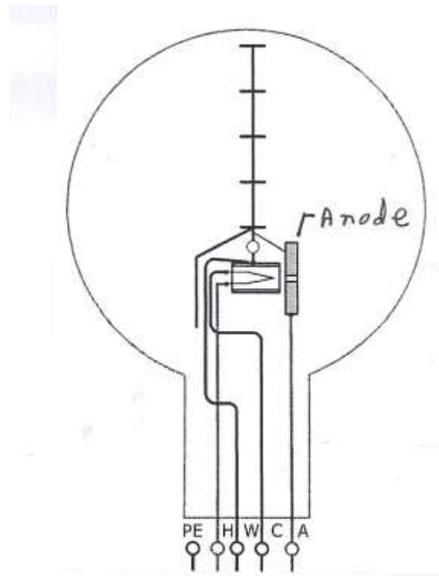

Fig. 2
field in the region of the bulb. Inside the glass bulb is an “electron gun” mounted so that the initial direction of the electron beam is horizontal. The electron gun consists of the following metallic elements. See Fig. 2 which is not very complete. Look at the electron gun yourself to verify these statements!
2. An oxide coated cathode (not shown in Fig. 2), which supplies the electrons for the beam.
3. A small diameter inner cylinder surrounding the filament (hard to see and not shown in Fig. 2), probably a heat shield.